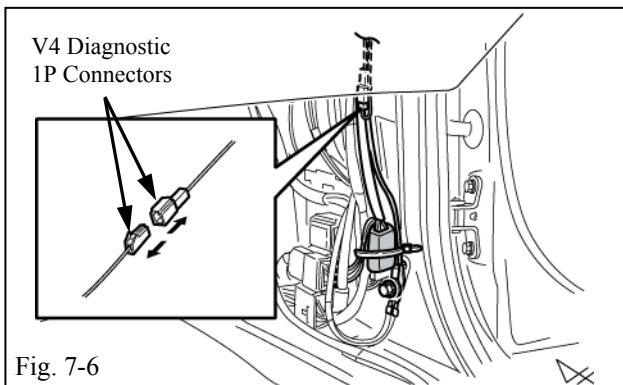

Fig. 7-6
- Disconnect the V4 Harness's White 1P Connector in the Passenger's Side Cowl Area. (Fig. 7-6)